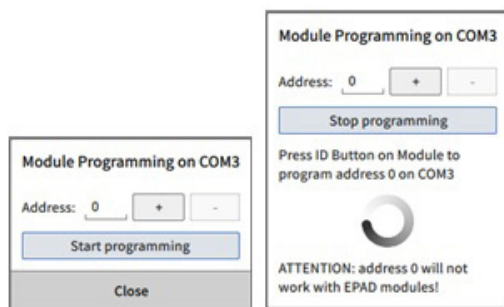

Fig. 16: EPAD programming procedure
9. Select the starting XR address (cannot be 0) and then select *Start programming* (Fig. 16)